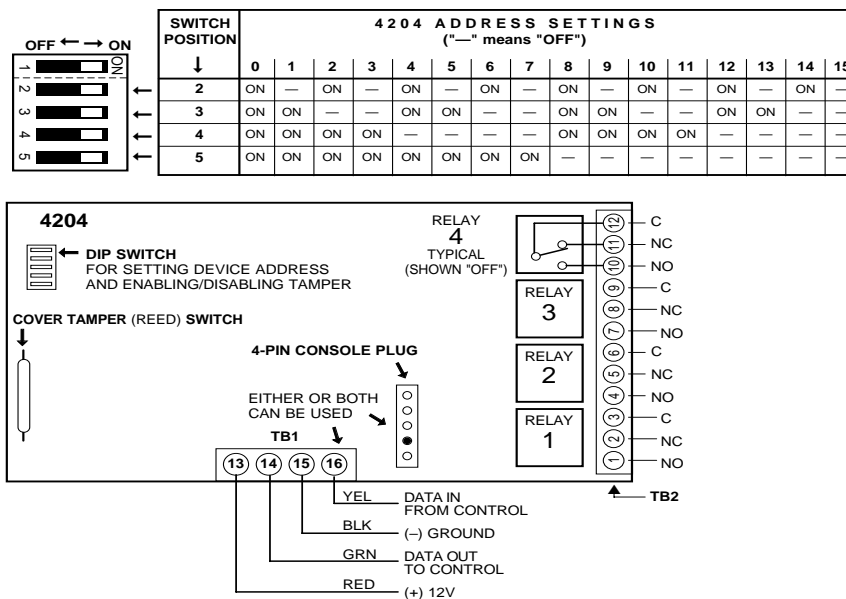
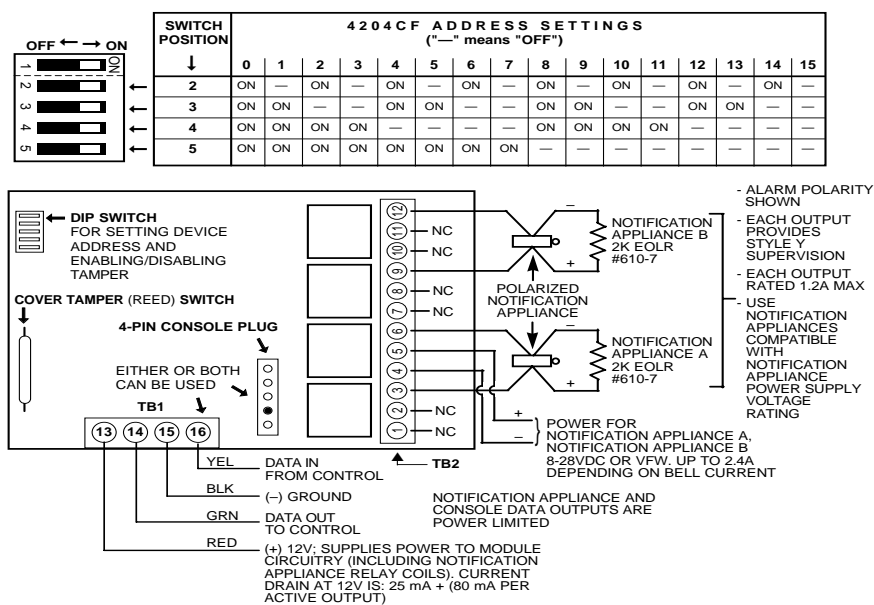

Figure 9-1a: 4204 Relay Module
Figure 9-1b: 4204CF Relay Module
1. Set the 4204's (see *Figure 9-1a*) or 4204CF's (see *Figure 9-1b*) DIP switches for a device address between 01 and 15 that is not being used by another device (keypad, RF receiver, etc.).